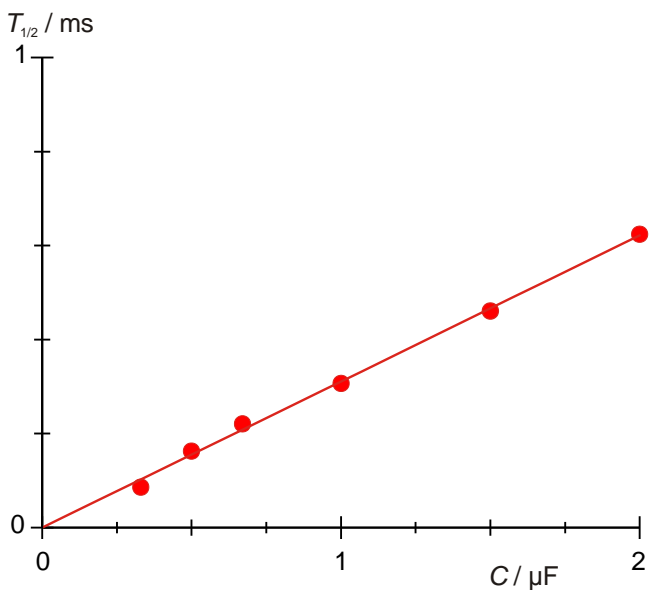

Fig. 6: Half-life $T_{1/2}$ as a function of capacitance C .
- Plot the “half-way” values $T_{1/2}$ from Table 4 against the capacitance C on a graph and join up the points with a straight line through the origin (Fig. 6).
- To verify equation (3), determine the resistance R from the gradient of the line m_R .